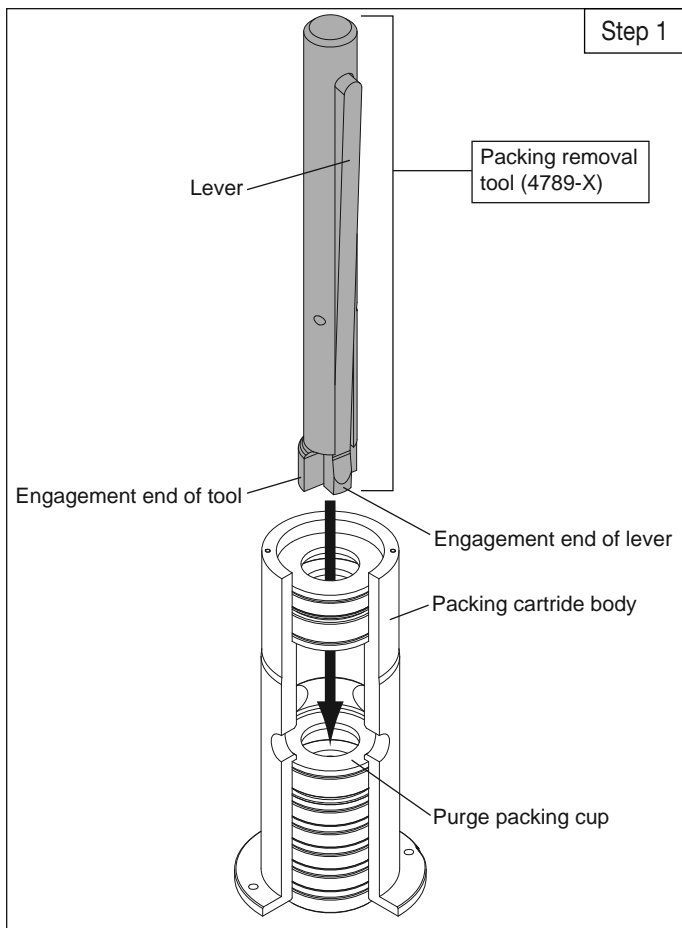

Figure 4.6A: Packing disassembly
- b. If the packing components are not easily removable, it may be necessary to use Corken Packing Removal Tool 4789-X. Referring to Figure 4.6A, orient the packing cartridge body so that the open end (cylinder side) faces down, and align the tool with the center opening of the packing cartridge.